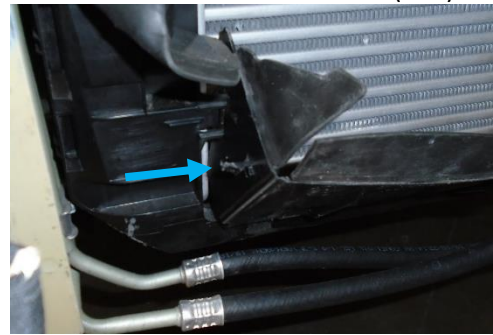
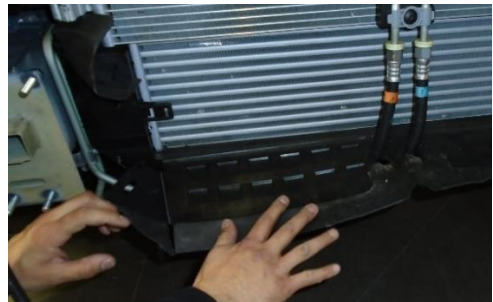

Figure 14: Air Flow Skirt Clip
Figure 15: Air Flow Skirt Pressed Down
16. Lower the air flow skirt by unclipping each side and pressing the skirt down as shown in Figure 14 - Figure 15. Some of the hoses may need to be adjusted.